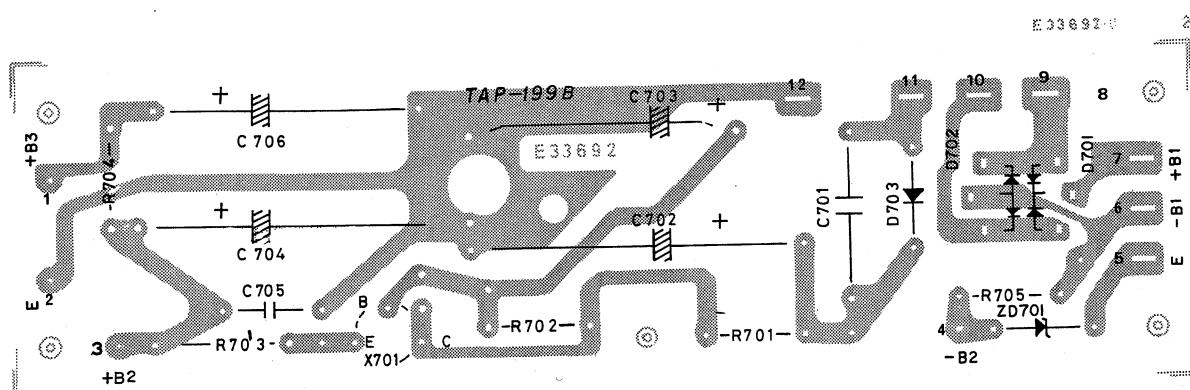

Fig. 12
**TAP-199B POWER SUPPLY CIRCUIT BOARD (Fig. 12)**